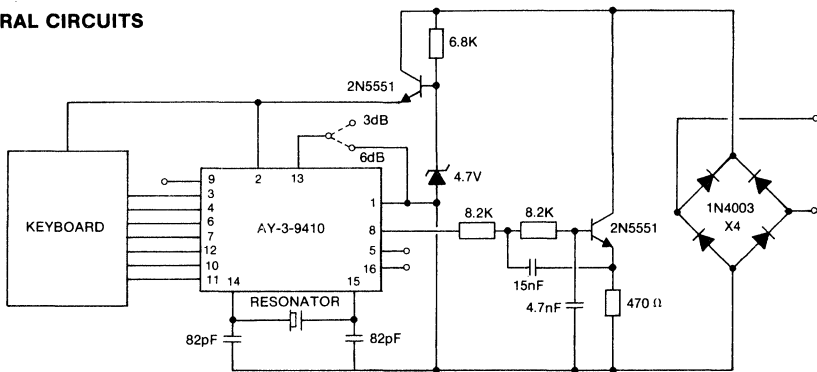
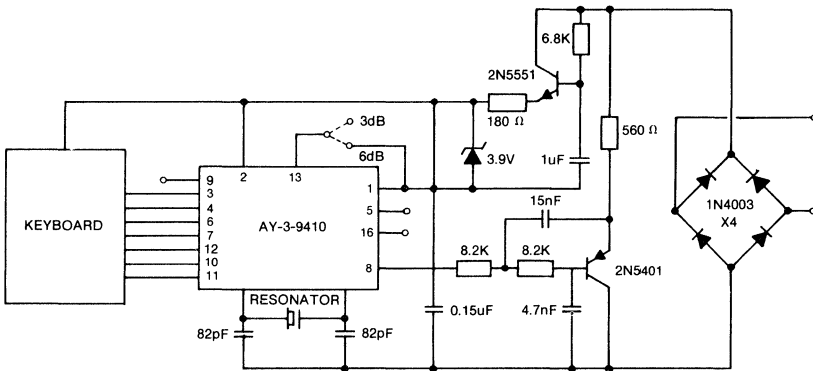

Fig.2a HIGH IMPEDANCE BUFFER
Fig. 2b LOW IMPEDANCE BUFFER
- 3.The output would be buffered to drive the line, the buffer can be arranged to have either a high impedance current output or a low impedance voltage output (See Figs.2a and 2b).
A low pass filter buffer amplifier is used to remove switching noise and interface the tones to the line. There is an option of either the low impedance, constant voltage buffer (see fig.2a) or the higher impedance, constant current output (see fig. 2b).